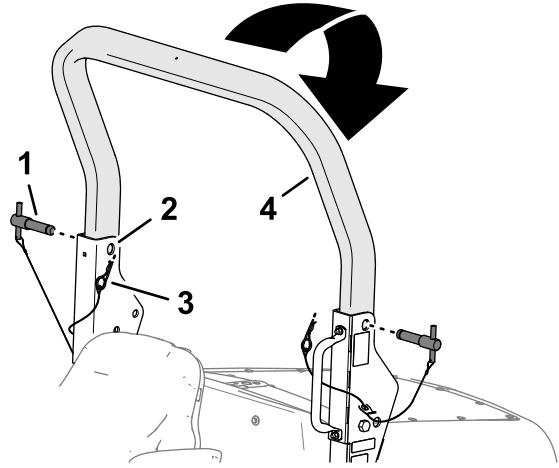

Figure 29
2. Remove the hairpins from the roll-bar pins in the pivot brackets of the lower roll-bar frame (Figure 29).
3. While supporting the weight of the upper roll bar, remove the roll-bar pins from the pivot brackets (Figure 29).